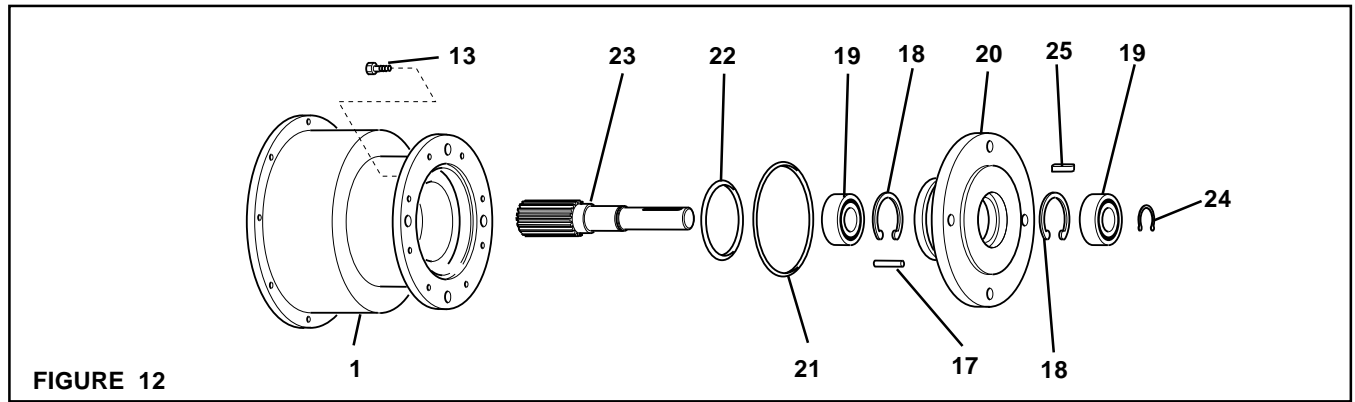

FIGURE 12
1. Remove the Key (Item 25) from the Stub Shaft (Item 23) (See Figure 12).
2. Remove the Retaining Ring (Item 24) (See Figures 12 and 13).
3. Press the Stub Shaft (Item 23) out of the Male Pilot (Item 20) and Bearings (Item 19) (See Figures 12 and 13).
4. Press the Bearing (Item 19) that is still in the Male Pilot (Item 20) out (See Figures 12 and 13).
5. Using a bearing puller, remove the second Bearing (Item 19) from the Stub Shaft (Item 23) (See Figures 12 and 13).
6. Supporting the Male Pilot and pressing on the outer bearing race, press one new Bearing (Item 19) into the Male Pilot until it is seated against the Retaining Ring (Item 18) inside the Male Pilot (See Figures 12 and 13).
7. Support the inner race of the bearing pressed into the Male Pilot in Step 6 and press the Stub Shaft (Item 23) into the Bearing (Item 19) and Male Pilot (Item 20) (See Figures 12 and 13).
8. Pressing on both the inner and outer races, press the second Bearing (Item 19) onto the Stub Shaft (Item 23) and into the Male Pilot (Item 20) (See Figures 12 and 13).
9. Install the Retaining Ring (Item 24) (See Figures 12 and 13).
10. Remove the O-rings Seals (Items 21 and 22) (See Figure 12).
13. Coat the new O-ring Seals (Item 21 and 22) with fresh O-ring lubricant (See Figures 12 and 13).
17. Apply a drop of Loctite® 242 to the threads of the eight Hex. Head Cap Screws (Item 13) (See Figures 12 and 13).
18. Using eight Hex. Head Cap Screws (Item 13), secure the Male Pilot to the Housing (Item 1) (See Figure 12).
20. Apply a drop of Loctite® 242 to the Key (Item 25) (See Figure 12).
21. Press the Key (Item 25) into the Stub Shaft (Item 23) (See Figure 12).